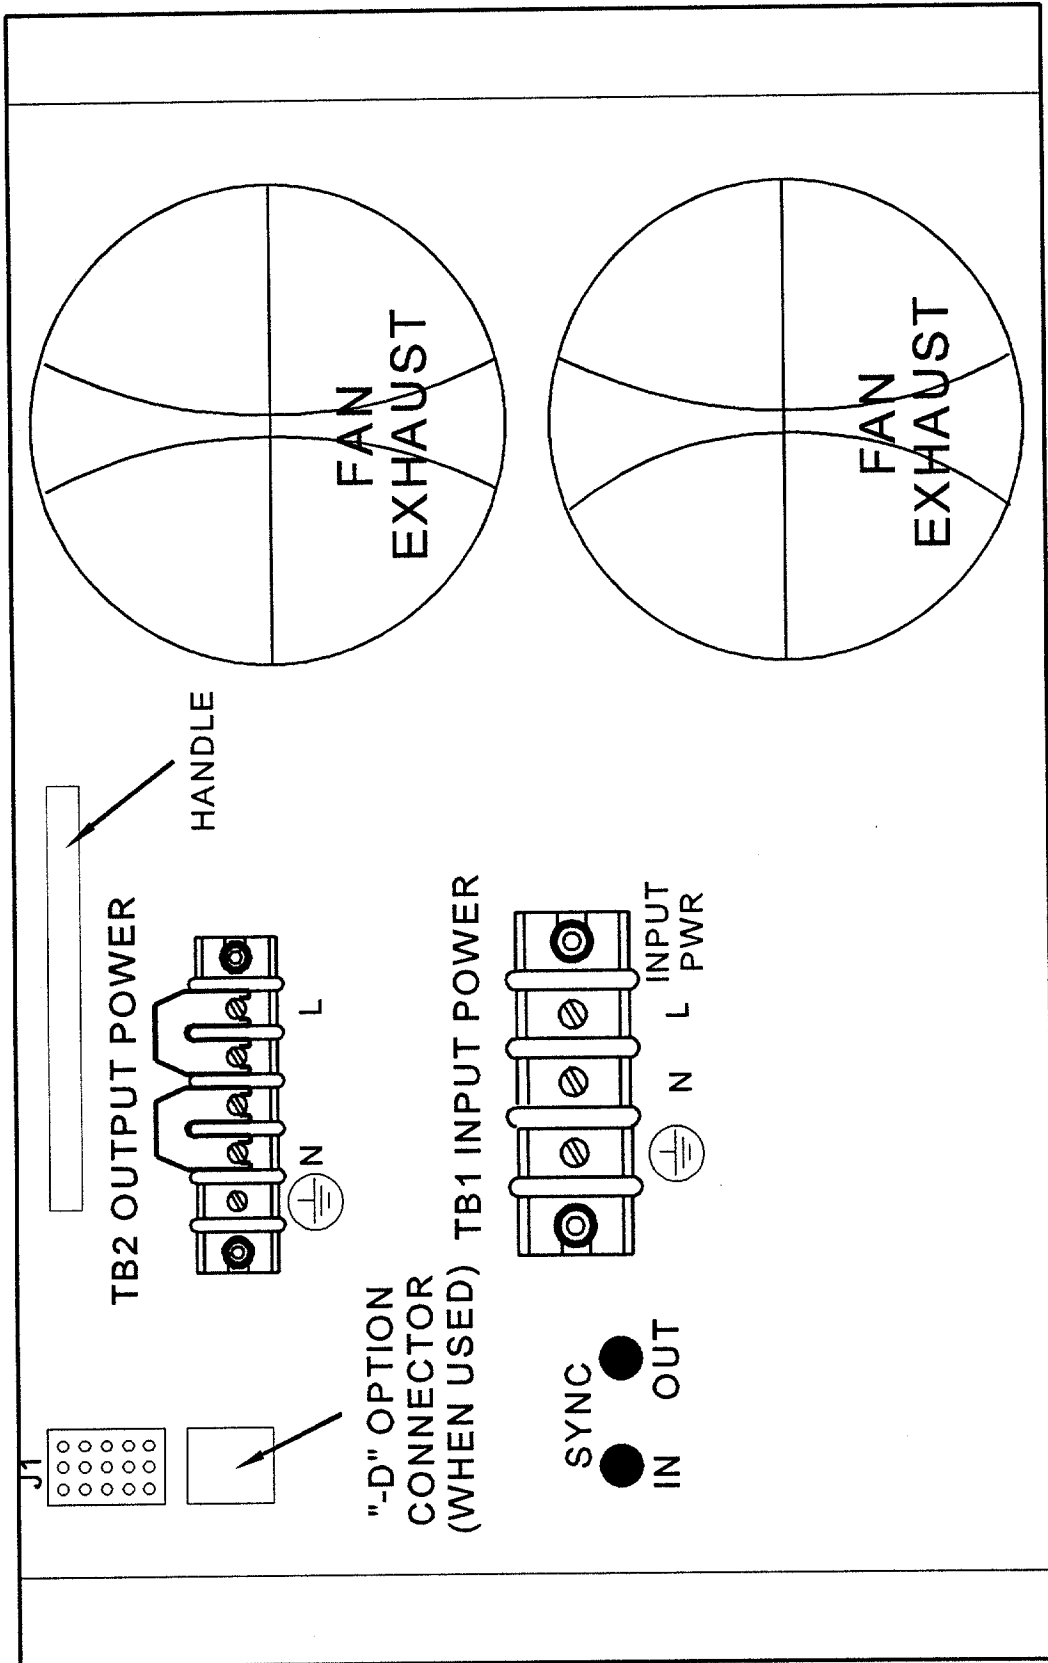

Figure 2-12. Model 1751SLE (Rear View)
The standard Model 1751SLE operates from 230 VAC single phase input power at 47 Hz to 63 Hz. The input power terminal block is located on the rear panel (refer to Figure 2-12 for location).
Output power is provided at a terminal block located on the rear panel of the unit (refer to Figure 2-12 for location). A listing of available output power can be found in Table 2-1. Figure 2-1 provides output voltage connection options.
The Model 1751SLE can be optionally equipped with BNC-type 'Sync' connectors located on the rear panel of the unit (refer to Figure 2-12 for location).
6. Connect the input power to the rear panel input power terminal block, TB1 (refer to Figure 2-12 for location).